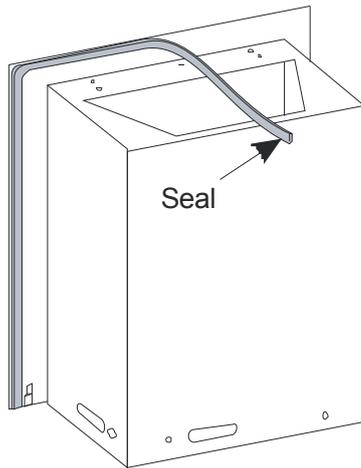

Figure 58
4. Apply the sealing strip around the rear edge of the Thermobox flange (see **Figure 58**). If fitting the **Optimum Control model** install the cable and wall switch prior to fitting the Thermobox.